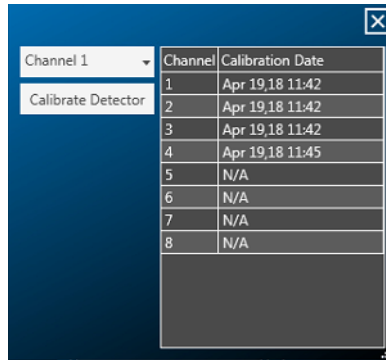

Figure 2.2: The main screen of the WCS software.
1. With your master test jumper connected to the TLS OUT port of the WCS, under the heading **Detector Offsets** click *Calibrate*. This will open up the window in Fig. 2.2.